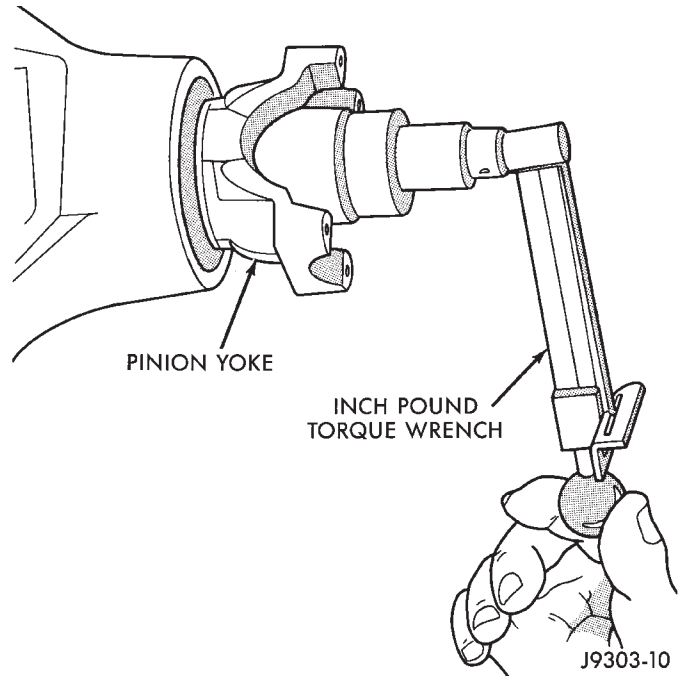

Fig. 9 Check Pinion Rotation Torque
(7) Rotate the pinion shaft using a (in. lbs.) torque wrench. Rotating torque should be equal to the reading recorded during removal plus an additional 0.56 N·m (5 in. lbs.) (Fig. 9).
(8) If the rotating torque is low, use Holder 6958 to hold the pinion yoke, and tighten the pinion shaft